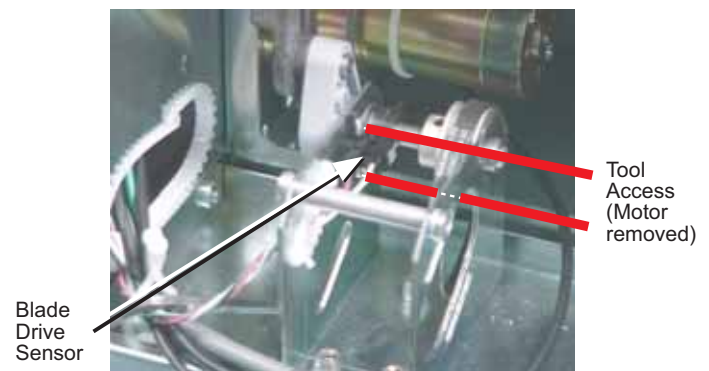

FIGURE 14
3. Remove the 2 mounting screws and remove the Blade Drive Sensor. (figure 14)